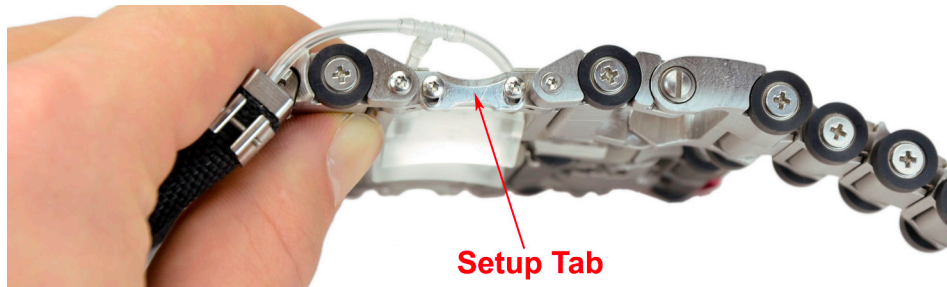

Figure 14 - Lowering Setup Tab
- f. Lower setup tab by loosening the two screws on either side of the tab (see Figure 14). After the setup tab has been lowered, retighten the screws on either side of the tab.